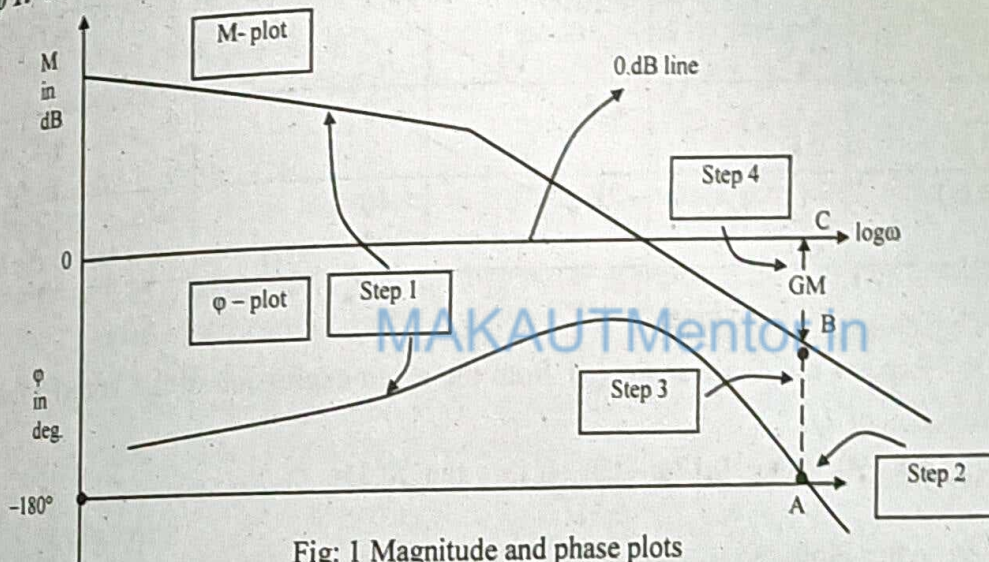

Fig: 1 Magnitude and phase plots
Step 1: First obtain the Magnitude and Phase plots (Fig. 1)